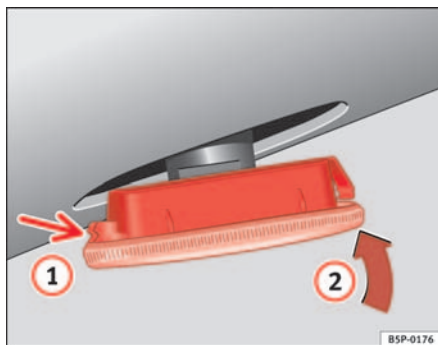

Fig. 160 Side indicators
- First fit the indicator in the opening in the chassis, fastening the tabs **1** ⇒ fig. 160, and then fit in the lamp as shown by the arrow **2** ⇒ fig. 160. ■